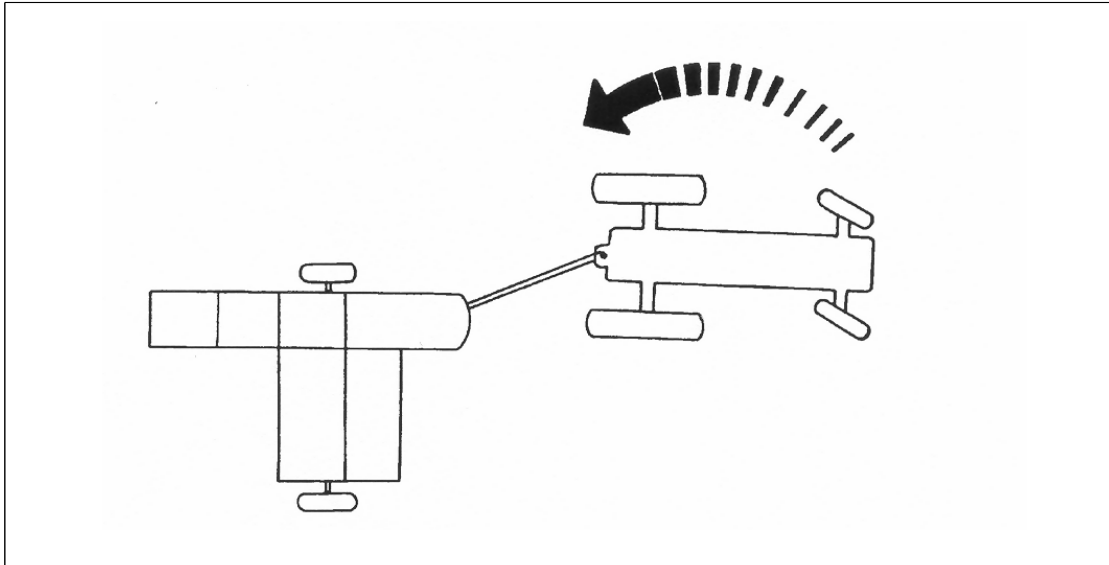

Fig. 10 Setting the baler into transport position
- turn the front tractor wheels to the right (Fig. 10). Unlock the drawbar by means of a rope and drive backwards until the drawbar locking pin slides into the transport hole of the baler body.